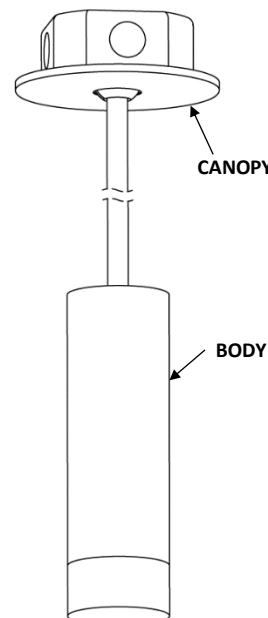

Fig.10
8. PUSH CANOPY AGAINST CROSSBAR UNTIL CANOPY ENGAGES MAGNETS. Fig. 10